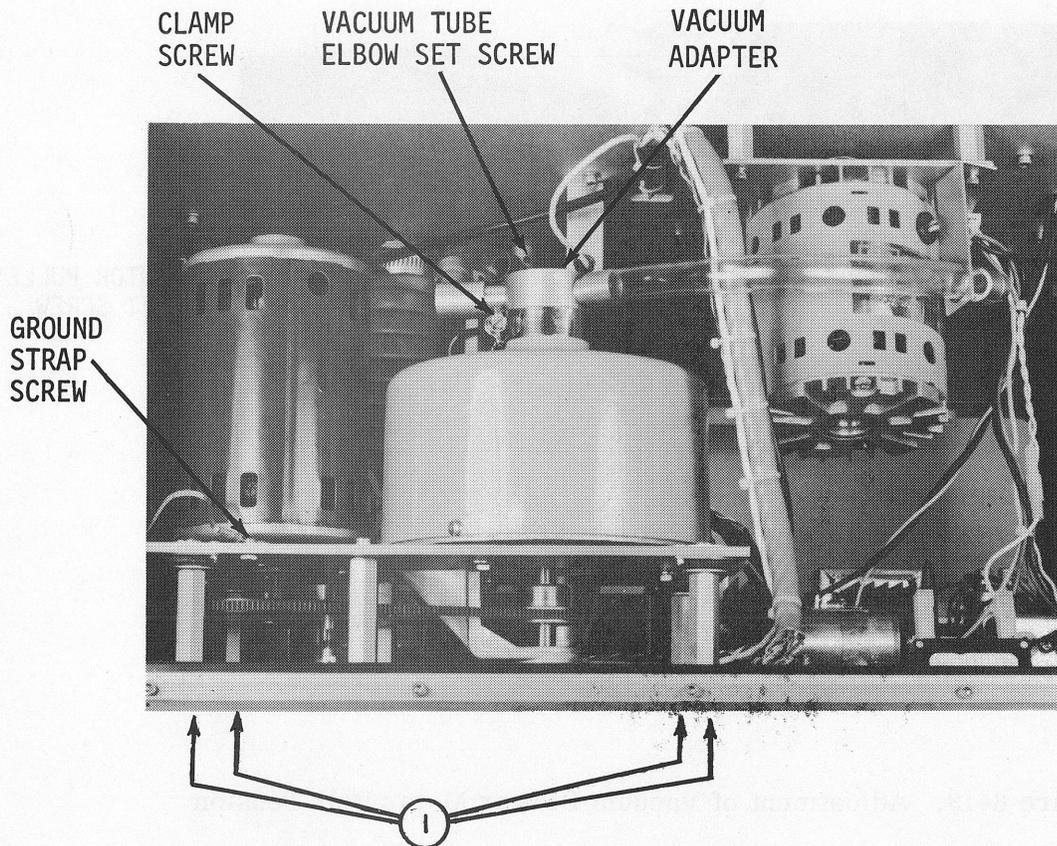

Figure 6-17. Removal of Vacuum Blower Motor Assembly
- g. LOOSEN vacuum adapter clamp on top of pump and remove from pump , figure 6-17.